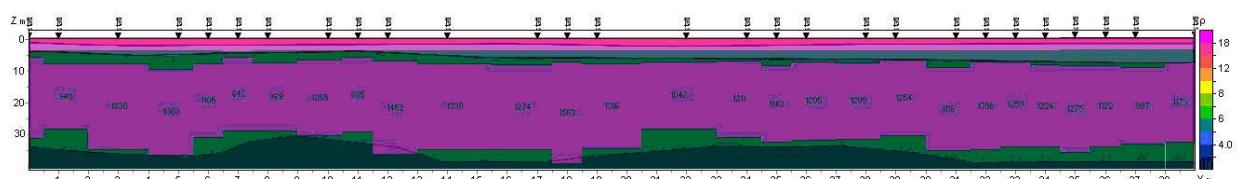

Fig. 36 Example of geological section background
**Option Add background** is used to insert background in model. This function can be useful if a prior information (geological section along profile) or data obtained by other methods are present or to compare inversion results at different stages. Background picture file must be in bmp format. When this option is selected, window appears to specify position of output file. Background is displayed above model and background layer is transparent (fig. 36, 37).